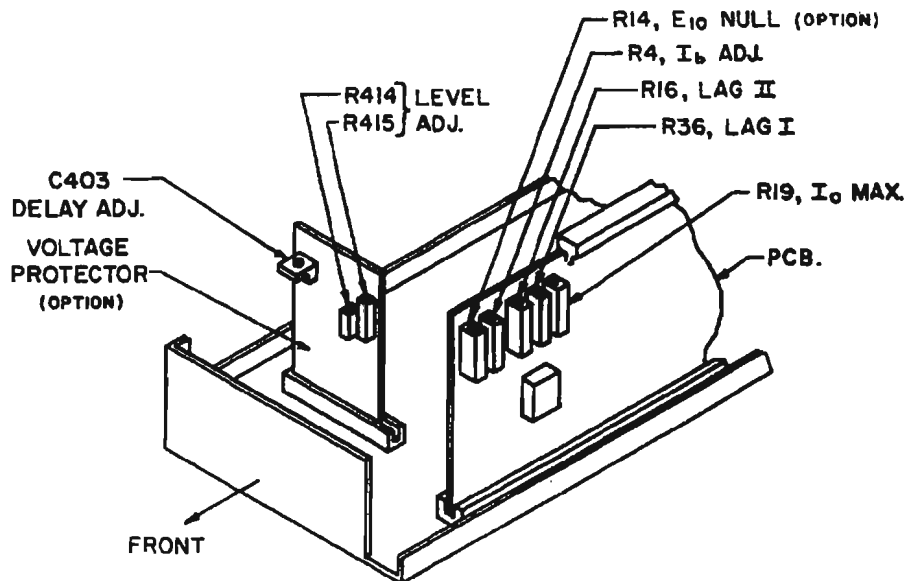

FIG. 2-1 LOCATION OF INTERNAL ADJUSTMENTS (NOT APPLICABLE TO "-HS" MODELS)
- c) INTERNAL ADJUSTMENTS AND CALIBRATIONS: Refer to FIG. 2-1 and TABLE 2-1.
- d) (Models suffixed "-VP" only) Check the "crowbar" action of the overvoltage protector by first adjusting the VOLTAGE CONTROL to about one quarter of the rated output voltage. Locate the "Vlimit" adjustments (R414,415, refer to FIG. 2-1) and turn the "Coarse" adjustment (R415) slowly counter clockwise until the output voltage goes suddenly to zero as observed on the panel meter. Turn AC POWER SWITCH "off". Turn the coarse "Vlimit" control (R415) fully clockwise again.